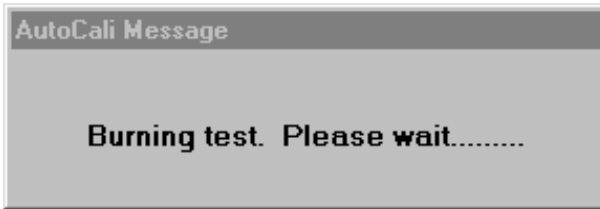

Figure D-5: Burning test
Step 5: Clicking the **Start** button, the utility will test some registers to make sure the PCI-1721 has stable enough to process the calibrate procedure (Fig. D-5)